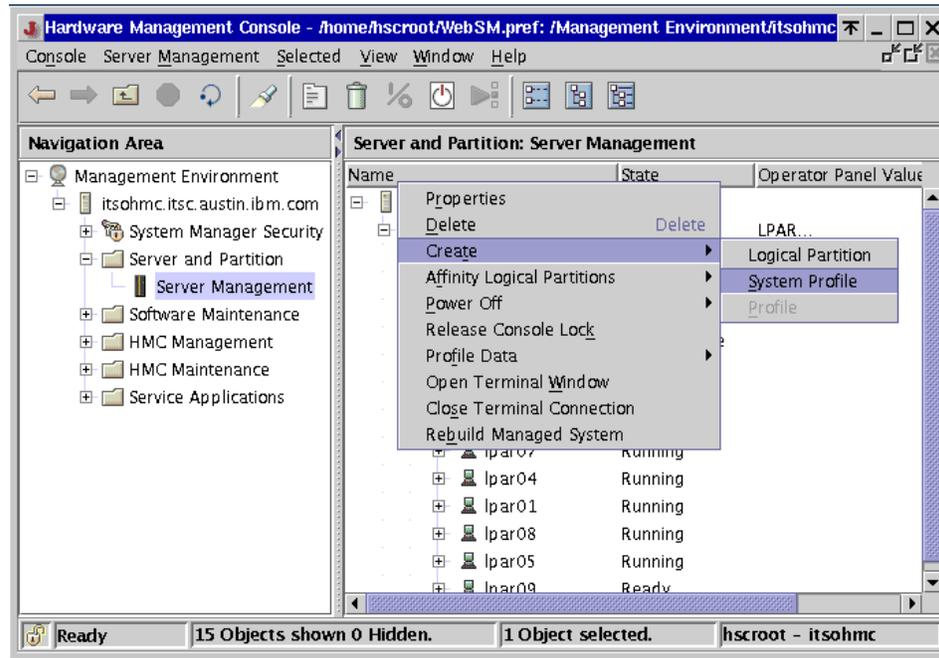

Figure 6-10 Creating system profiles
1. Select the managed system and select the **Selected** menu, or right-click and select **Create** → **System Profile**, as shown in Figure 6-10.